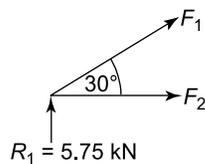

Figure 6.35
Consider joint (1); see Figure 6.35.